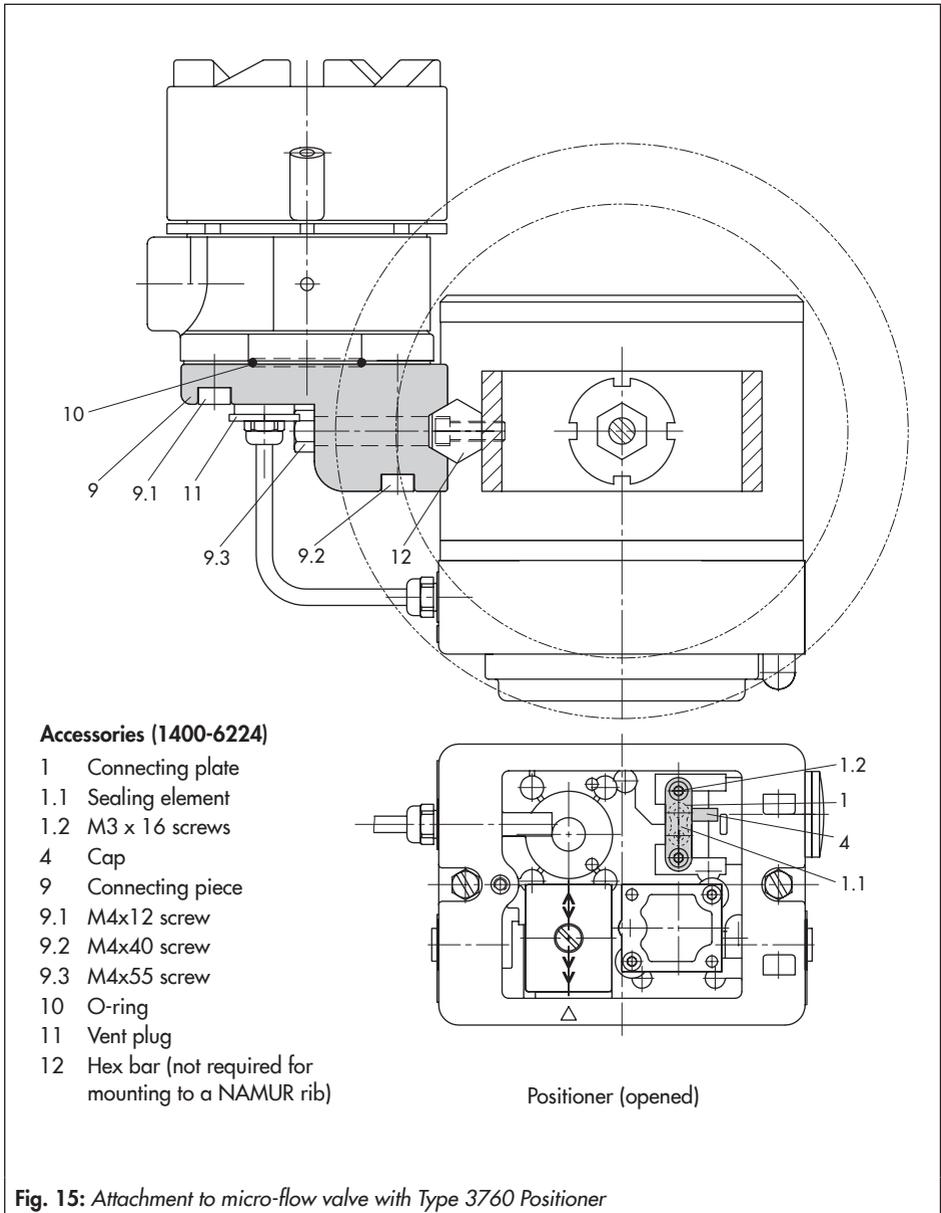

Fig. 15: Attachment to micro-flow valve with Type 3760 Positioner
For Type 4765 and Type 3760 Positioners (Fig. 14 and Fig. 15) the 1/8 NPT threaded connection of the adapter (9) needs to be fitted with a suitable cable gland and must be connected to the input connection (input signal 27) of the positioner using a pipe or hose. Try to keep the connection as short and small as possible, e.g. 6x1 mm cross-section.
- **Type 3760:** place on cap (4, see Fig. 15).